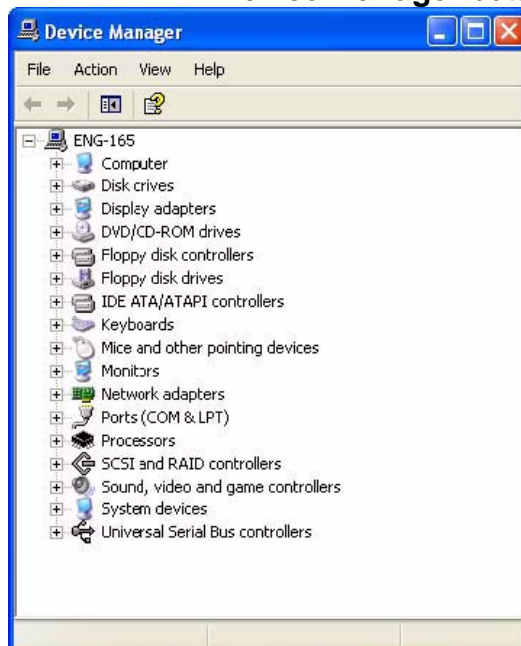

Figure 7-3 Device Manger
3. Click the **Hardware** tab, and then click the **Device Manager** button. (Figure 7-3).